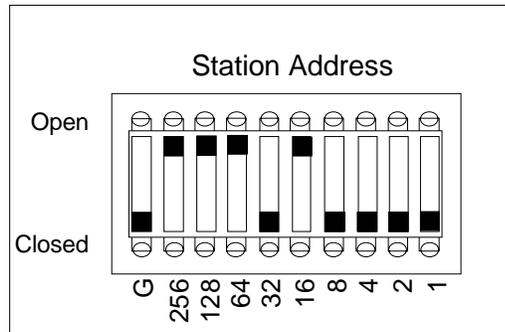

Figure 3-1, "FIM Addressed at 208"
4. Address the FIM. The FIM must be addressed less than 250 (1-250). The station must be readdressed if it originally contained a RIM that was addressed between 255 and 512. Figure 3-1, "FIM Addressed at 208" (below) is an example of how to set the station address for a network RTU. See "Appendix C: Addressing Modules" for more information.